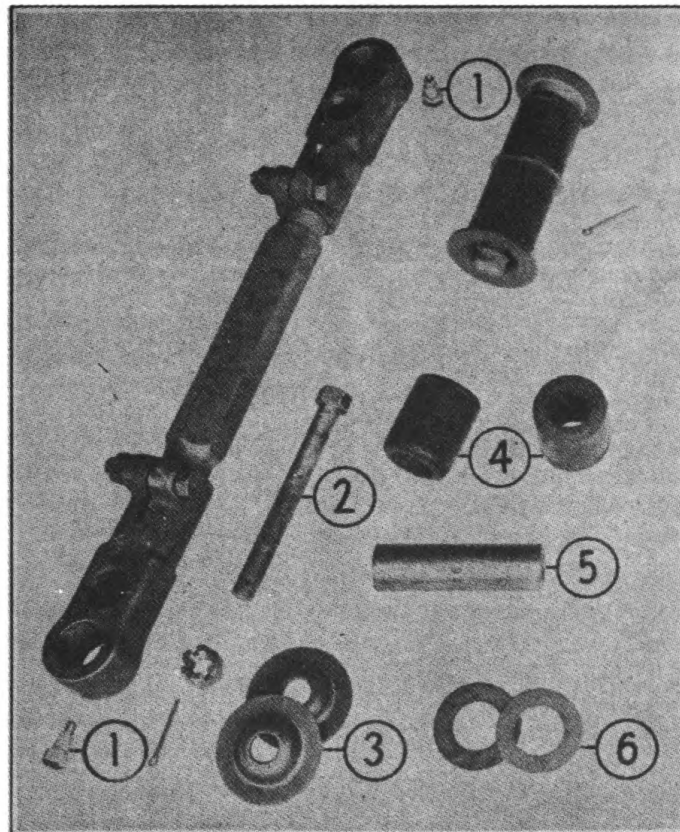

FIGURE 47. RADIUS ROD ASSEMBLY
5. REPLACEMENT OF RADIUS RODS (Fig. 47).—*a.* Remove the set screws (1) and bolts (2) at each end of the rods.
b. Remove the inner and outer washers (3).